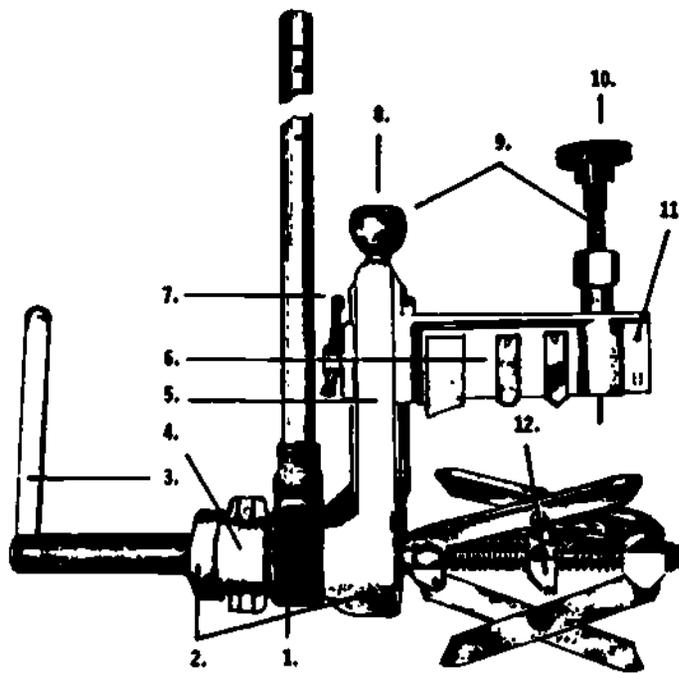

Figure 1-74. Field Lathe
b) The field lathe shown in Figure 1-74 trims and machines the ends of pipe from NPS 3 to NPS 8.